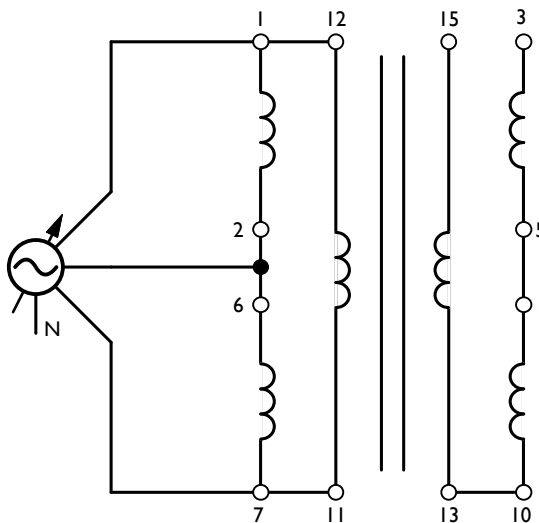

Figure 2.4: Three-Phase Transformer Connected in Delta-Delta
17. With the power off, connect the Three-phase Transformer module in the  $\Delta - \Delta$  configuration shown in Figure 2.4. Note that the delta on the *secondary* is left open between points 15–3. **Do not close the delta** until the voltages have been verified to be zero in step 22 below. This is done to insure that the connections have been made properly. Incorrect wiring will produce dangerously high currents, and damage the transformer.